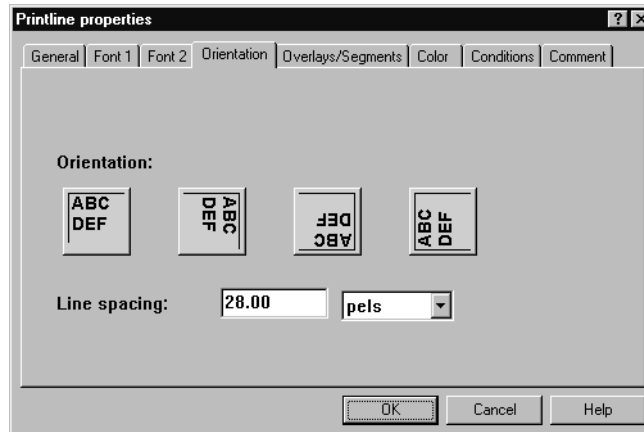

Figure 40. Changing line spacing for a Printline
- After you have mapped the data to the View/Edit window, click on any line of data but the first, and verify the value for *s*: in the positioning section of the toolbar. An example of this is shown in Figure 40. If the incorrect value is displayed, it probably means that the Preferences were not set correctly. It is best to fix the preferences, refresh the sample data, and redo the mapping.
To bypass this error, check the Line Spacing settings in the Printline properties and in the Field properties. In all cases, they should be set at the correct value for your application (for example, 28 pels). To do this, right-click on the **Printline** and select the **Orientation** tab. The Line Spacing setting appears on that window as shown in Figure 40. Change the value if necessary. Repeat these steps to check the Line Spacing value for the two fields.